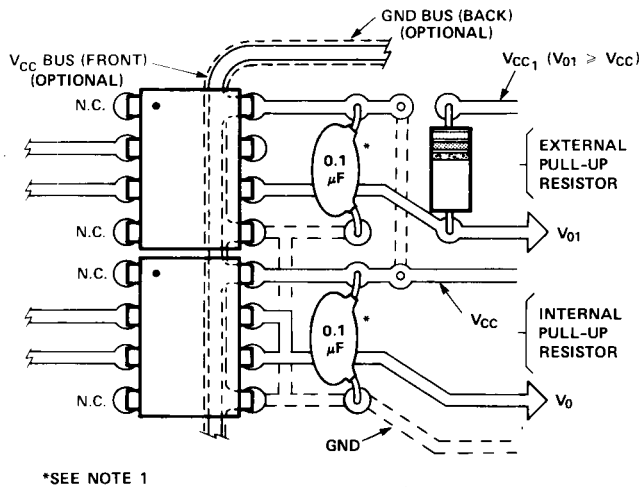

Figure 19. Recommended printed circuit board layout.
1. Bypassing the power supply line is required with a $0.1 \mu\text{F}$ ceramic disc capacitor adjacent to each optocoupler as illustrated in Figure 19. The power supply bus for the optocoupler(s) should be separate from the bus for any active loads, otherwise a larger value of bypass capacitor (up to $0.5 \mu\text{F}$) may be needed to suppress regenerative feedback via the power supply.
A recommended layout for use with an internal 1000 Ω resistor or an external pull-up resistor and required V_{CC} bypass capacitor is given in Figure 19. V_{CC1} is used with an external pull-up resistor
for output voltage levels (V_O) greater than or equal to 5 V. As illustrated in Figure 19, an optional V_{CC} and GND trace can be located between the input and the output leads of the HCPL-